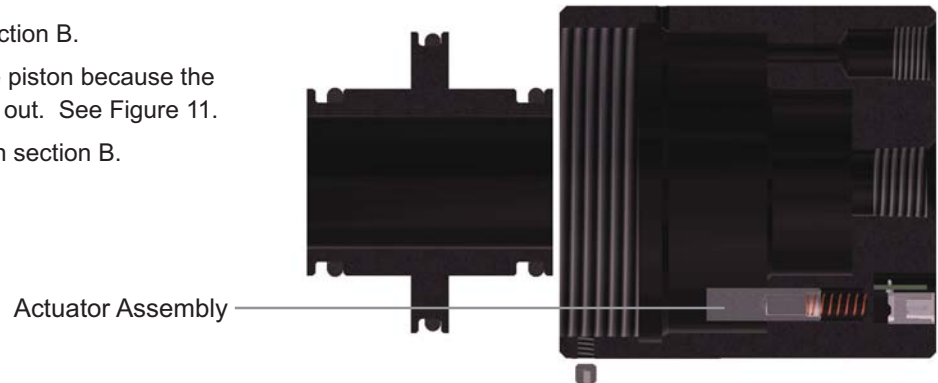

Figure 11. FE Section View
1. Follow steps (1) and (2) in section B.
2. Take care when removing the piston because the Actuator Assembly can come out. See Figure 11.
3. Follow steps (3) through (5) in section B.